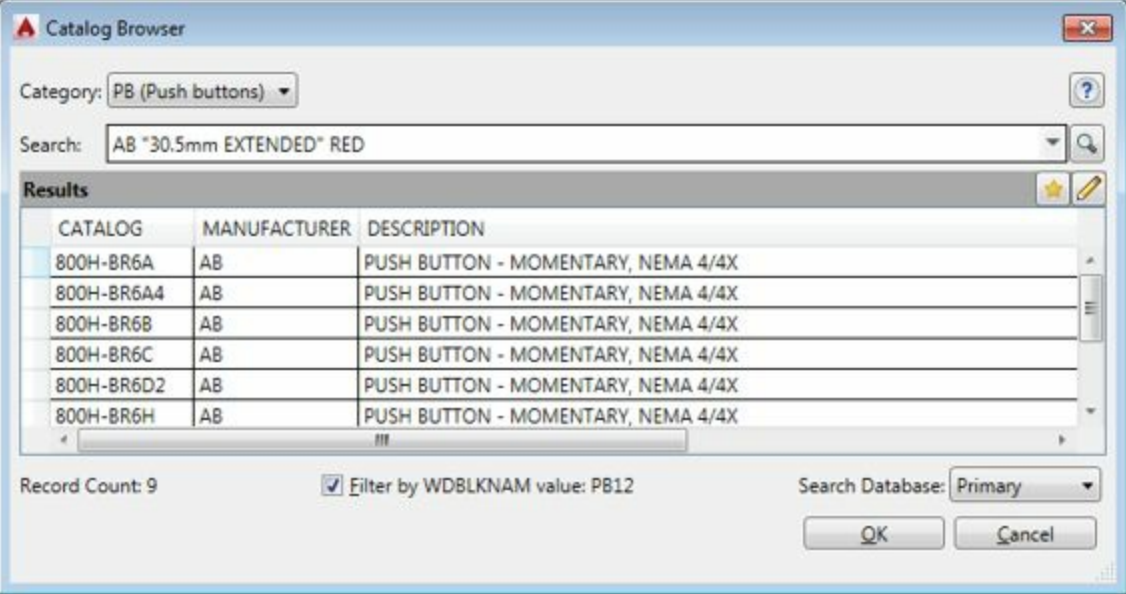

Figure-8. Catalog Browser dialog box
- Click on the **Catalog lookup** button to check the catalog for current symbol. The **Catalog Browser** dialog box will be displayed; refer to Figure-8.